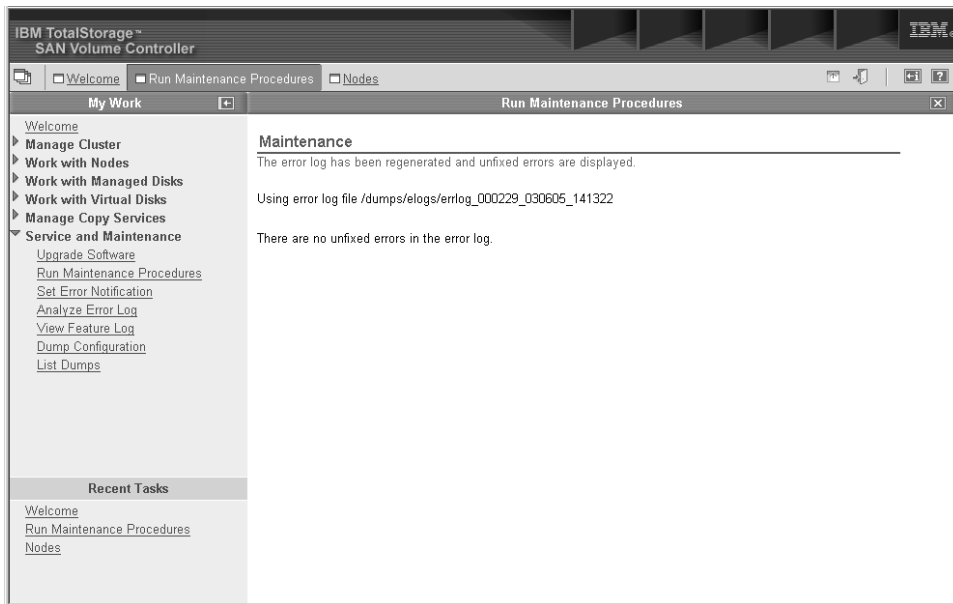

Figure 55. Example of what is displayed when you see no errors
7. Click Exit. If other errors need to be fixed, these errors are displayed now and the directed maintenance procedures will continue. If no errors remain, you will see what is displayed in Figure 55.